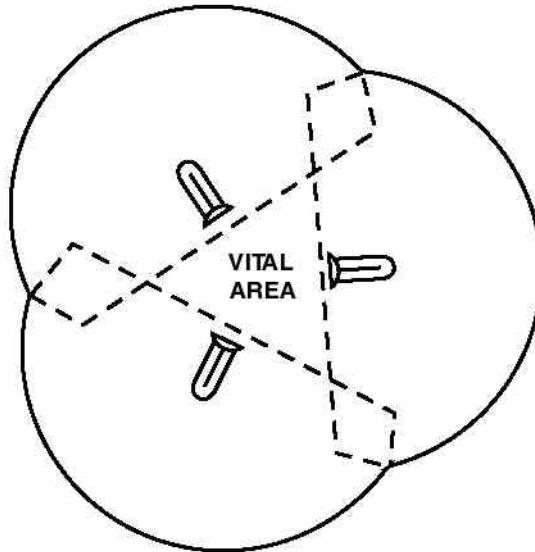

Figure 3-5. LAAD Balanced Fires.
- | **Balanced Fires.** Balanced fires (see fig. 3-5) are achieved by positioning LAAD units to permit approximately equal defensive fires in all directions. Balanced fires take on added importance when facing a 360 degree threat.
Mission accomplishment is the prime consideration in site selection. When a choice of sites is available, cover, concealment, and camouflage are considered in tandem with LAAD employment guidelines (see figs. 3-5 through 3-10). Particular attention is given to unobstructed fields of fire, masking clearance, and backblast area.